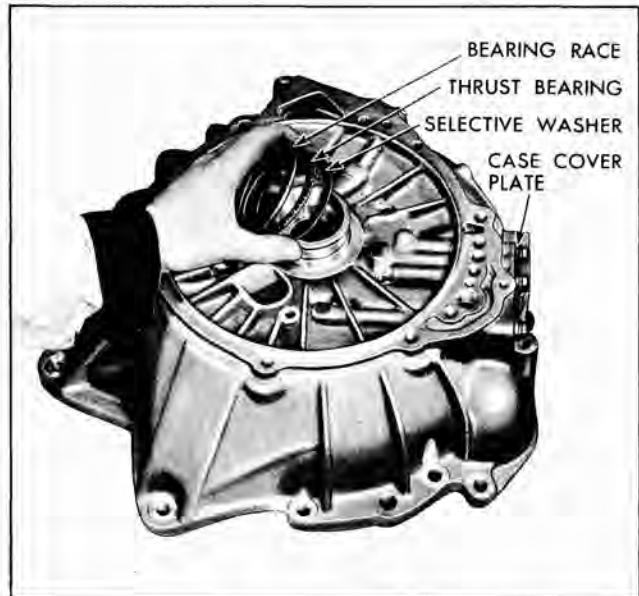

Fig. 68 Case Cover Thrust Bearing and Selective Washer
5. Remove race, thrust bearing and selective washer from case cover (Fig. 68). Race may have been previously removed. NOTE: Every second roller space of the thrust bearing is empty.